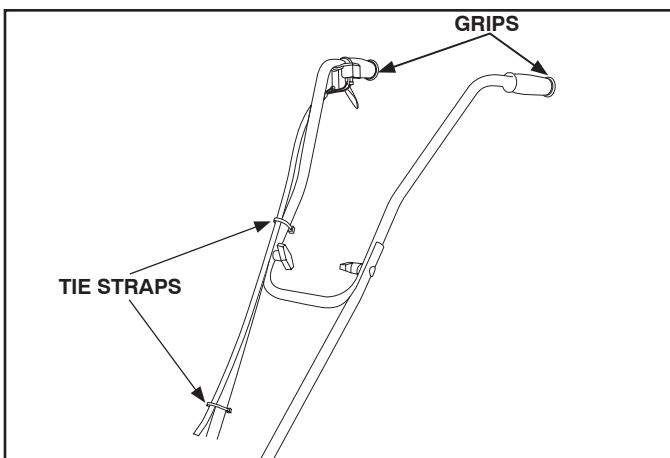

Fig. 4
6. Retain kill wire and throttle cable to right handle bar using two (2) nylon tie straps. Cut off loose ends of the straps. (See Fig. 4)